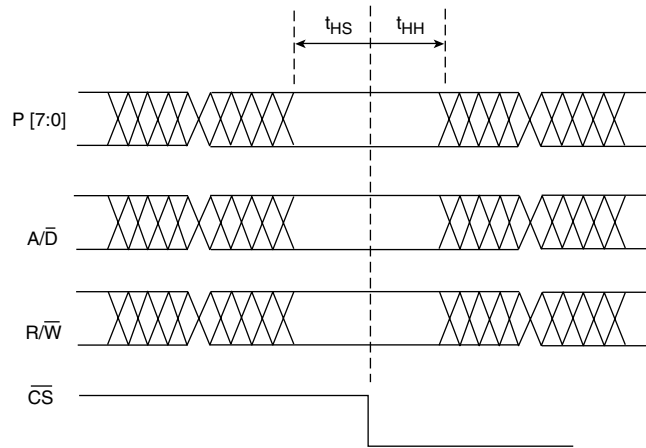

Fig. 14a HOSTIF Parallel Port Input Setup & Hold Times
- B) Signals are "strobed" into/out of the parallel port on the falling edge of the \overline{CS} signal. Setup and hold times, as defined in the AC timing tables, are relative to this edge and must be met (see Figure 14a)